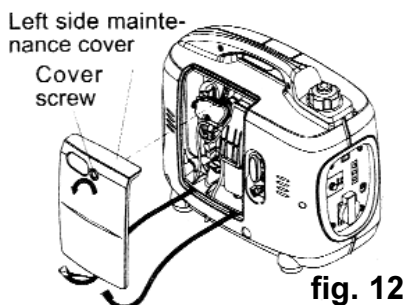

fig. 12
4.1.1 Loosen the retaining screw and remove the left hand side maintenance cover. Refer to fig. 12.